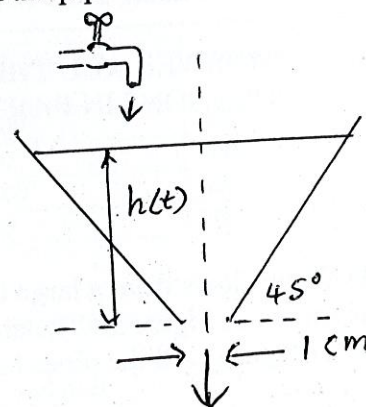

Figure 3
3) A tank has the shape of a cone with half angle 45 degrees, as shown in Figure 3. The tank is filled with water from a tap, and at the same time discharges water to the atmosphere through a hole at the bottom, as shown in the figure. The diameter of the hole is 1 cm. At a certain time,  $t$ , the height of water in the tank is  $h(t)$ .